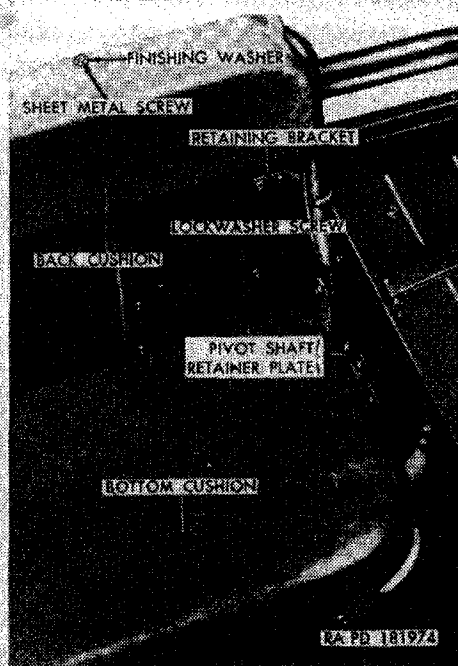

Figure 193. Rear seat assembly (M38A1)—installed—left side view.
- (2) *Installation.* Place the seat bottom cushion on the bottom of the seat frame, align the two integral mounting clips with the mounting brackets on the frame, and slip the cushion into position on the frame. Secure the bottom cushion to the bottom of the frame with two $\frac{5}{16} \times \frac{5}{8}$ lockwasher screws. Position the seat back cushion at the top of the seat frame and secure cushion to frame with twelve No. 12 finishing washers and No. 10 $\times \frac{1}{2}$ sheet metal screws. Install the driver's seat assembly (a(2) above). Install the passenger seat assembly (b(2) above).
e. Rear Seat Cushion Assemblies (fig. 193).
- (1) *Removal.* Remove the rear seat assembly (c(1) above). Remove the 10 sheet metal screws securing the rear seat bottom cushion to the bottom of the rear seat frame and lift cushion off the frame. Remove the 10 sheet metal screws and finishing washers securing the rear seat back cushion to the top of the rear seat frame, and remove the cushion.
- (2) *Installation.* Position the rear seat bottom cushion on the bottom of the rear seat frame and secure cushion to frame with ten No. 10 finishing washers and No. 10 x 1/2 sheet metal screws. Position the rear seat back cushion at the top of the rear seat frame and secure cushion to frame with ten No. 10 finishing washers and No. 10 sheet metal screws.